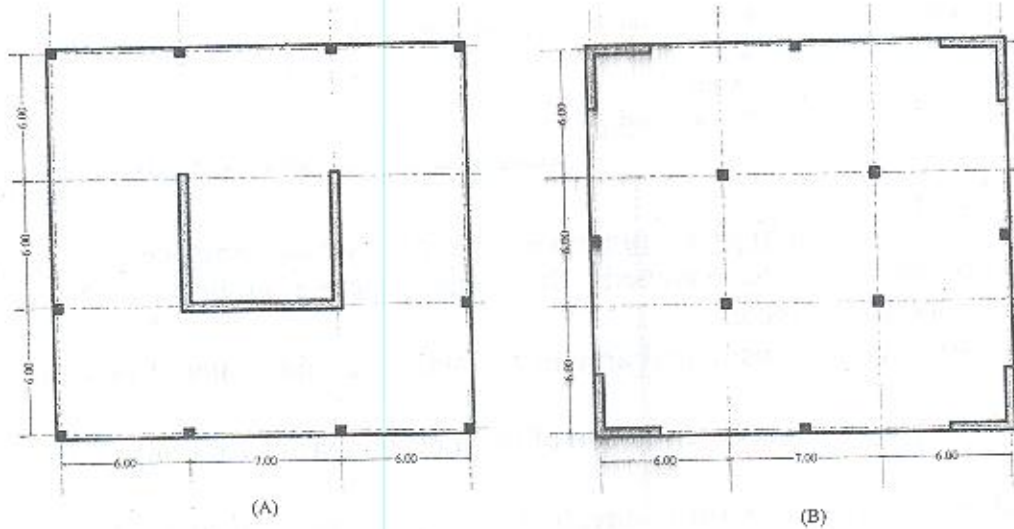

Fig.2
- c. For the following floor plans in Fig.2, it is required to *choose* which system is preferable from the lateral load resisting system viewpoint for tall buildings, *comment*.